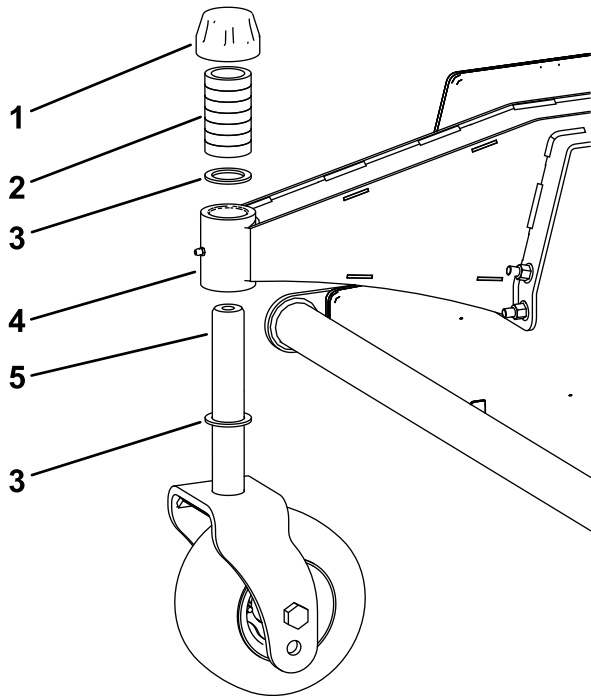

Figure 8
3. Assemble the casters to the cutting unit with a shim on both sides of the caster shaft hub as shown in Figure 8.